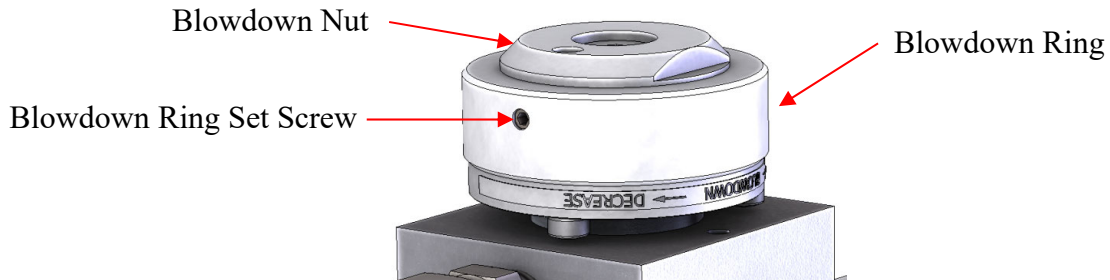

Figure 30: Set Screw on Side of Blowdown Ring (Valve is Shown Upside Down)
17. Remove the blowdown ring set screw on the side of the blowdown ring. See Figure 30.
18. Utilize the wrenching flats and unscrew the blowdown nut from the pilot body. See Figure 30.